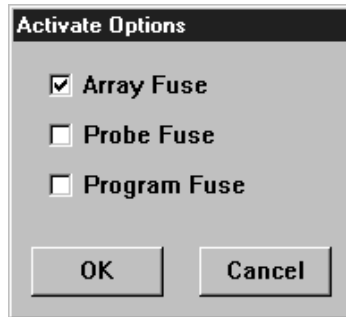
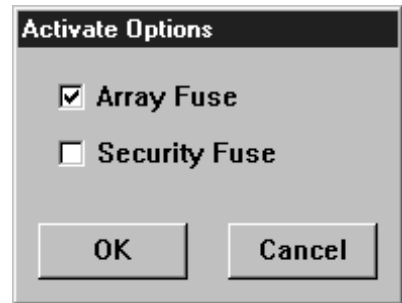

Figure 4-2. Activate Options for
Figure 4-3. Activate Options for all
- 4. Program your device.** You can program Array fuses only, the Security fuse(s) only, or both Array fuses and the Security fuse(s). For ACT 1 and 40MX devices, the dialog box shown in Figure 4-2 is displayed. For all other devices, the dialog box shown in Figure 4-3 is displayed. Choose the desired fuse programming options and click OK. Refer to “Programming Security Fuses” on page 36 for a discussion about programming security fuses.